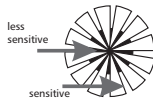

fig. 1
- Locate the unit at a place where most of the movements are transverse to the PIR. These movements can be detected more quickly than movements towards the PIR (Fig. 1).